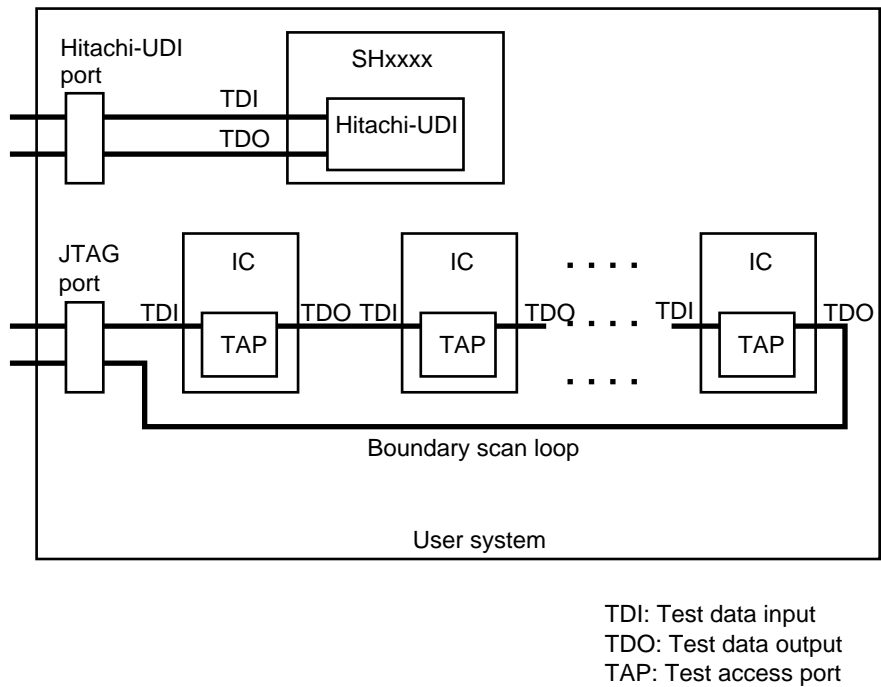

Figure 2.5 User System Example
5. When developing user systems, do not connect the TDI and TDO signals of the device to the boundary scan loop, or separate them by using a switch (figure 2.5).